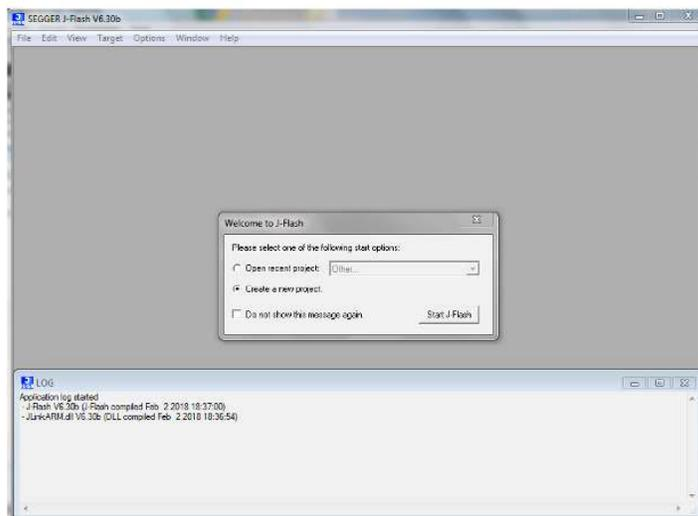

Figure 2: Hardware connections for loading the software on the Hercules processor [2219A <<vervangen>>]
- Using the JLink cable connector (Figure 2, STMA-69040);